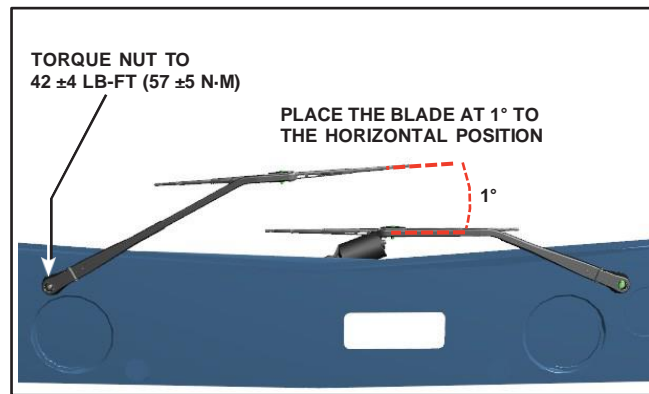

Figure 7 - Positioning of Curbside Wiper Arm
- 2.15. While maintaining the windshield wiper arm in place, tighten the windshield wiper arm nut to the torque indicated in Figure 7.